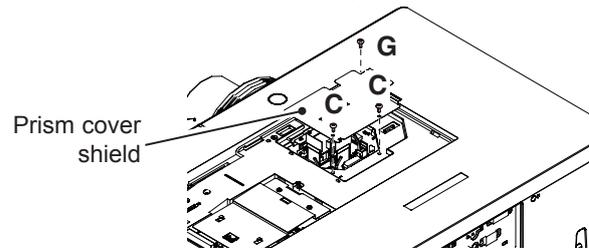
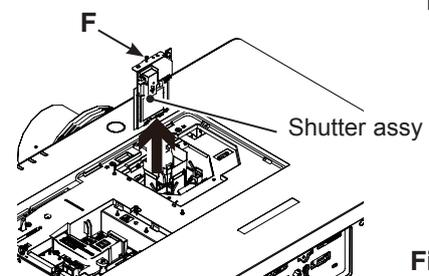

Fig. 3
Fig. 4
- 3** Remove 2 screws-C(M3x6) and 1 screw-G(M3x10) to take the prism cover shield (Fig.3) then Loosen 1 hex screw-F and take the shutter assy off (Fig. 4).